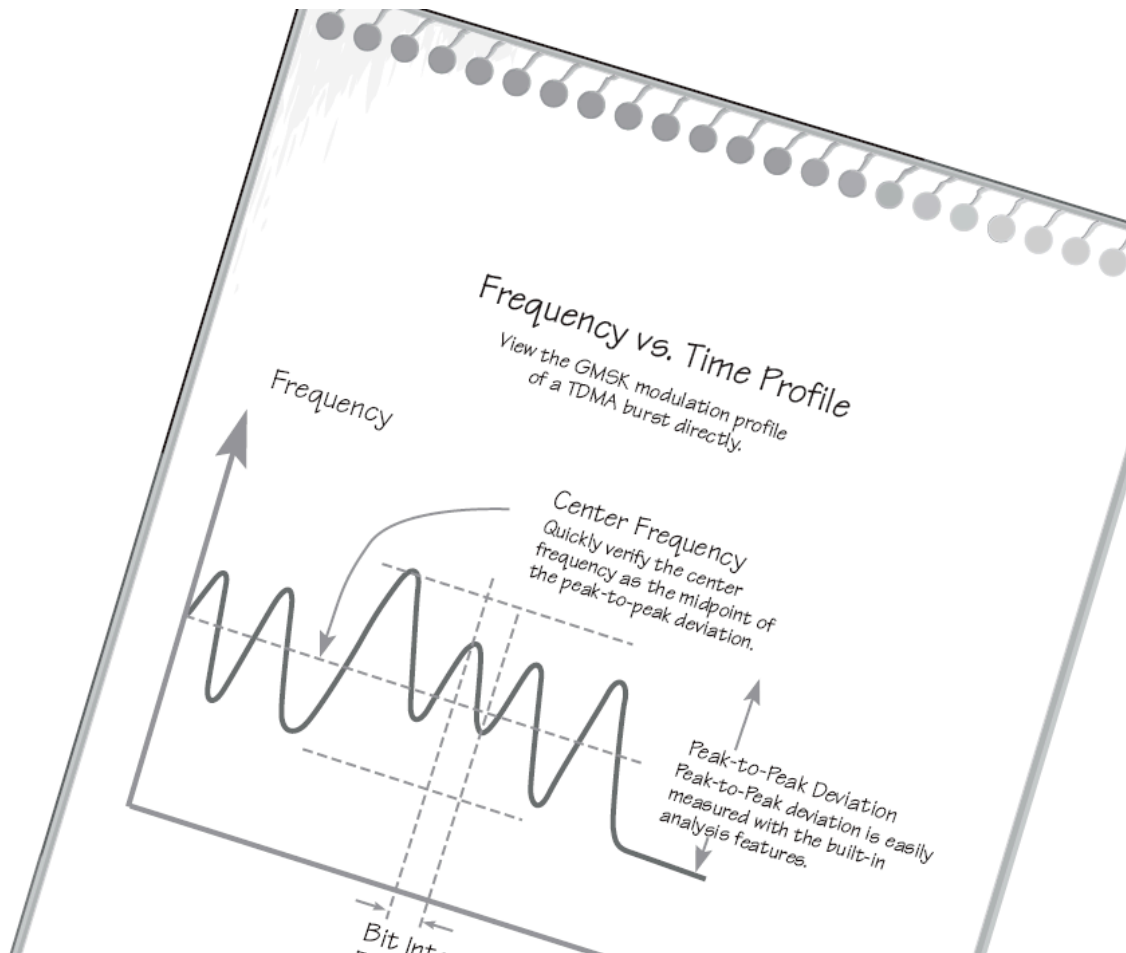

Figure 6
5. Click on the **TX** button at the bottom of the screen and verify Frequency, Deviation and Power of the UUT with the appropriate pieces of test equipment. The **STOP** button must be clicked on to discontinue transmitting while adjustments are being made. The Center frequency and proper deviation will be validated on the FSEA30-B7 analyzer display. The Center frequency will be entered and the limit lines set to (+) 2.4 kHz and (-) 2.4 kHz. By adjusting the “**Mod DC Offset Trim**” and the “**Mod. Deviation Adjust**” values with **Inc +** and **Dec -** on the test software the tester will center the displayed burst signal between the limit lines and verify center frequency accuracy as the midpoint of the peak-to-peak deviation.(See Figure 6)